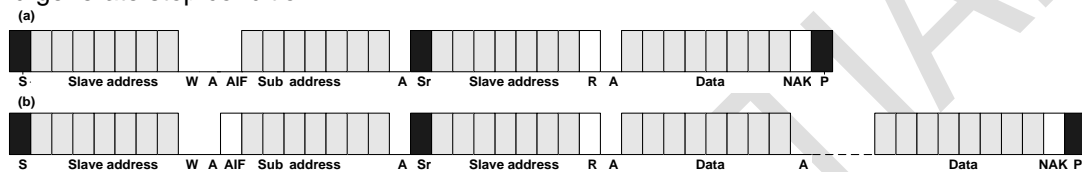
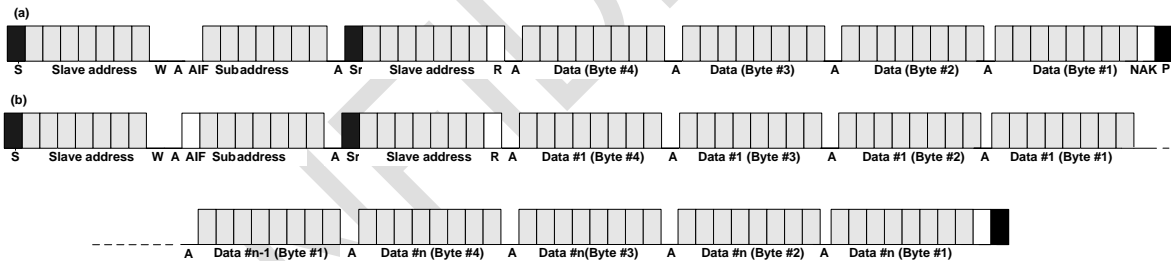

Figure 8. Single Byte Read Mode Sequence
Figure 9. Quad Byte Read Mode Sequence
**Figure 8-(a)** represents single byte reading operation from the NTP8910A. To read data from the NTP8910A, generate start condition to start transfer. After then, send “slave address” with write mode flag and send the register address(sub address). By regenerating start condition (Sr) again and transferring “slave address” with read mode flag, reading operation begins. The NTP8910A will generate data on SDA signal synchronizing with serial clocks on the SCL. Because the SDA signal generated from the NTP8910A, the master device must generate ACK on 9th slot to confirm that the master received read 1 byte successfully. However, if this is just one byte reading operation, NAK (not acknowledged) signal must be generated. Then stop condition must be generated to end transfer.
When AIF set to high on sub address like **Figure 8-(b)**, data will be read continuously with register addresses which are increased from initial “sub address” for every byte. To continue reading operation in this case, the master must generate ACK signal on every 9th slot to confirm that master received 1 byte successfully. Otherwise, reading operation will be terminated. To end address auto incrementing reading operation, generate NAK on 9th slot and generate stop condition.
**Figure 9** represents quad byte reading operation. The difference between quad byte reading operation and single byte reading operation is only the size of receiving data. So, after sending “Sub address”, 4 sequential bytes must be received from the MSB to the LSB sequence.
The type presented on **Figure 9-(b)** is quad byte read operation under address auto increment mode, AIF function. Please compare the data receive size between **Figure 8** and **Figure 9**.